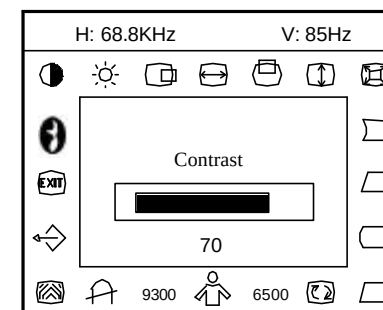

Figure 4 The OSD Message
1. Press the Shuttle Knob to make the OSD window appear. See Figure 4.
2. Rotate the Shuttle Knob to select the desired function. See Figure 4.